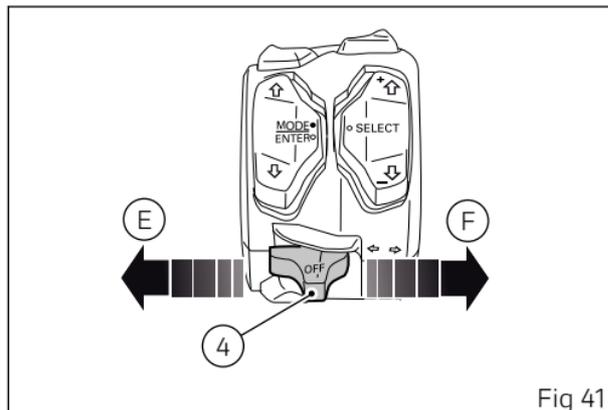

Fig 41
When turning the key to off, the display shows the page where to switch on the parking lights: to turn on the parking lights, keep pressed button (4, Fig 41) in position (E).